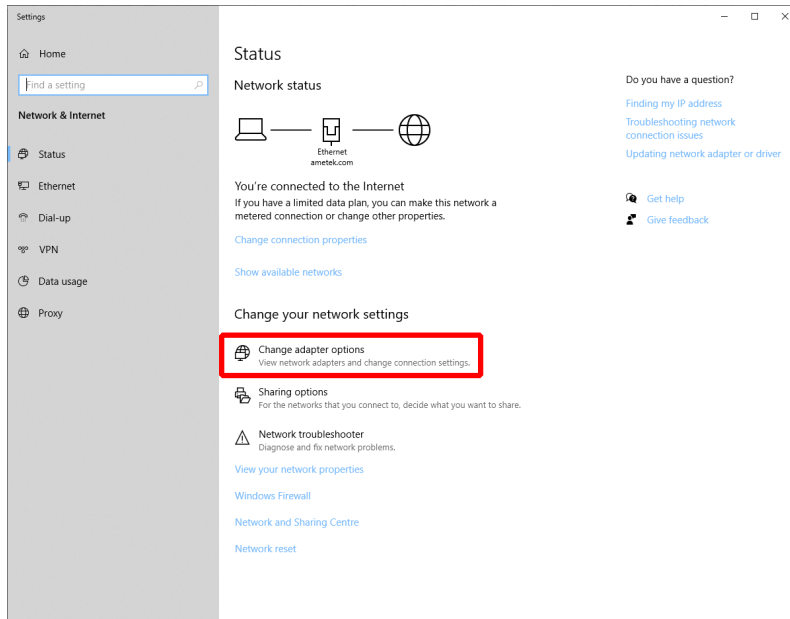

Fig. 4-2 Status screen
- 4) The **Status** screen is displayed. See Fig. 4-2 below.